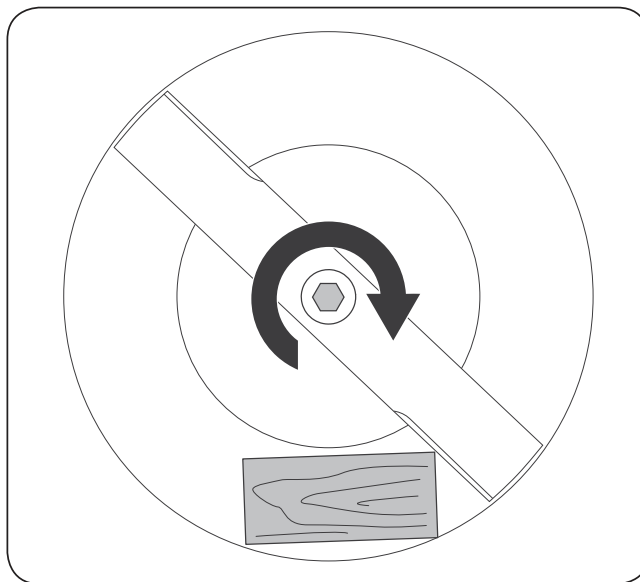

Figure 20
5. Install the new blade. Use a block of wood between the blade and lawn mower housing and tighten the blade bolt, turning clockwise. The recommended tightening torque is 45-55 Nm. (See **Figure 20**)